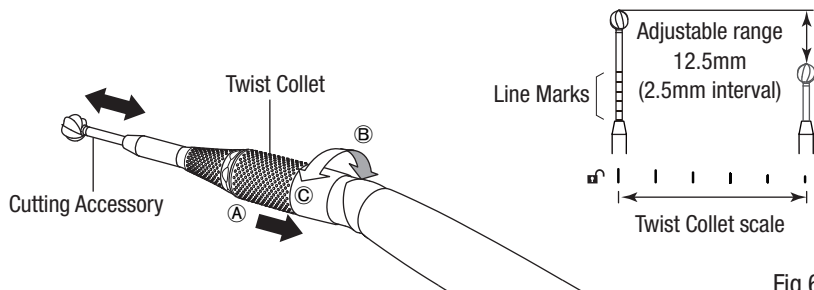

Fig.6
The exposure length of the Cutting Accessory can be adjusted by rotating the twist collet of the attachment in the direction of ② or ③ while pulling it lightly in the direction of ①. See to the figure below (Fig.6).